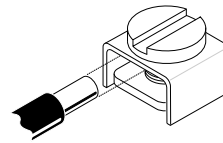

Figure 2
4. Strip, twist, and insert wires into the screw terminals. The wire should be between the terminal body and nut. See Figure 2. Tighten screws.